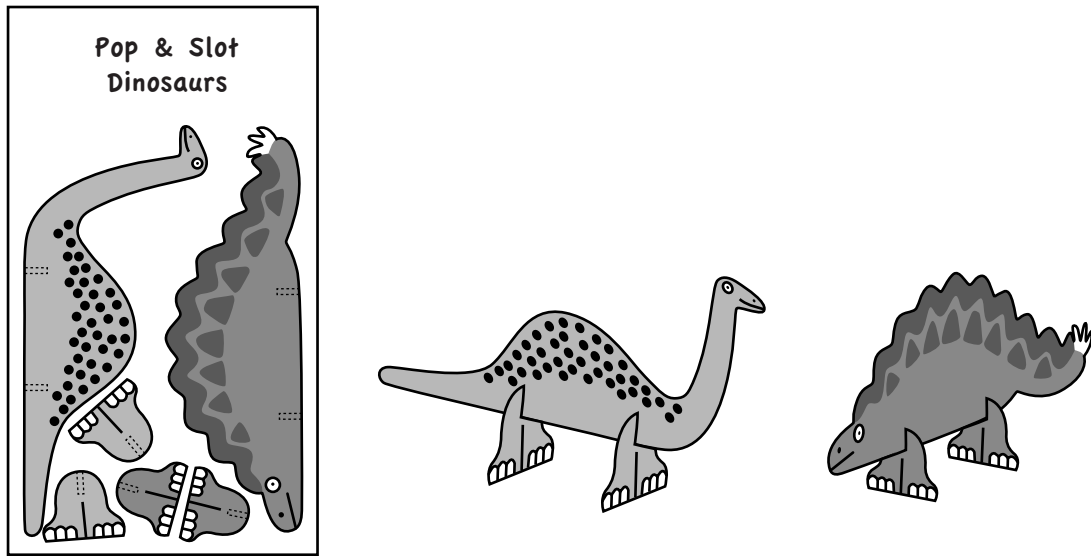

Fig. 2
- (c) Fig. 2 shows the press-out card models that are included in the activity pack. The press-out pieces slot together to form the three-dimensional (3D) dinosaurs.